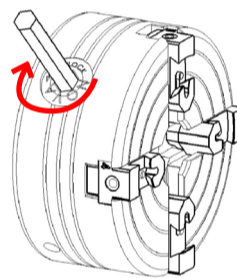

FIG 1
1. Using the supplied Chuck Key, turn the chuck pinion gear clockwise to open the jaws to their outer most position (as in Figure 1). **IMPORTANT: Never leave the Chuck key in the chuck when not in use!**